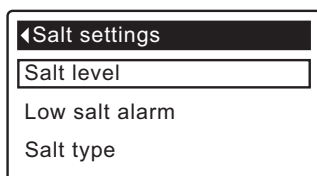

FIG. 33
3. Press the SELECT (O) button to display the Salt settings menu (See Figure 33).
7. Press the SELECT (O) button. The display will go back to the Salt settings menu (Figure 33).